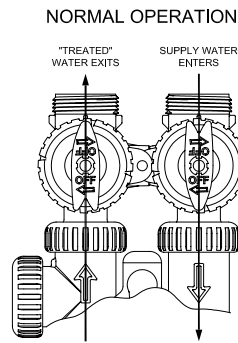

figure 1
1. Normal Operation Position: The inlet and outlet handles point in the direction of flow indicated by the engraved arrows on the control valve. Water flows through the control valve during normal operation and this position also allows the control valve to isolate the media bed during the regeneration cycle. (see figure 1)
Momentarily press  again. Display will read REGENERANT DRAW DN; *allow this cycle to complete*. This allows an air pocket to form for the filter to function properly. Control will automatically advance to the FILTERING position. Open the outlet valve of the filter, or if using optional bypass place to **NORMAL OPERATION MODE** (see figure 1 on page 4).
When water is flowing steadily to drain without the presence of air, momentarily press  again. Display will read **RINSE**. Open the outlet valve of the filter, or if using optional bypass place to **NORMAL OPERATION MODE** (see figure 1 on page 4). Allow control to finish the **RINSE** cycle. Allow the control to automatically advance to the **FILTERING** position.